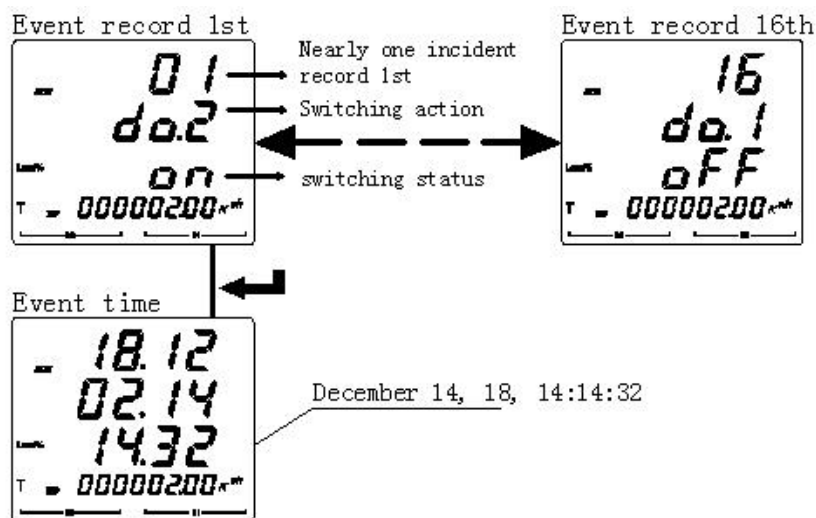

Figure 22
5.2.7 View the AMC72L/96L event record parameters as shown in Figure 22.